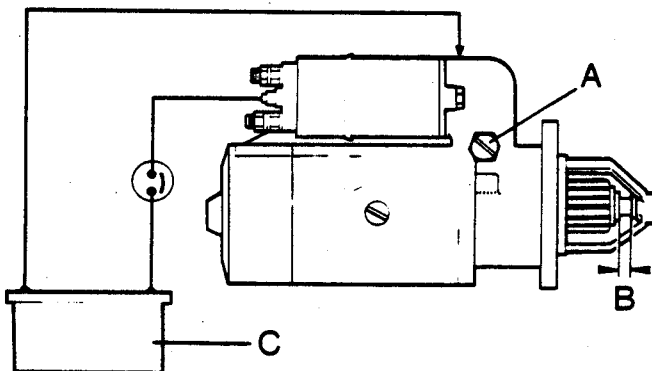

Figure H93
- (b) Measure the gap as shown in Figure H93, between the pinion and the end bracket.